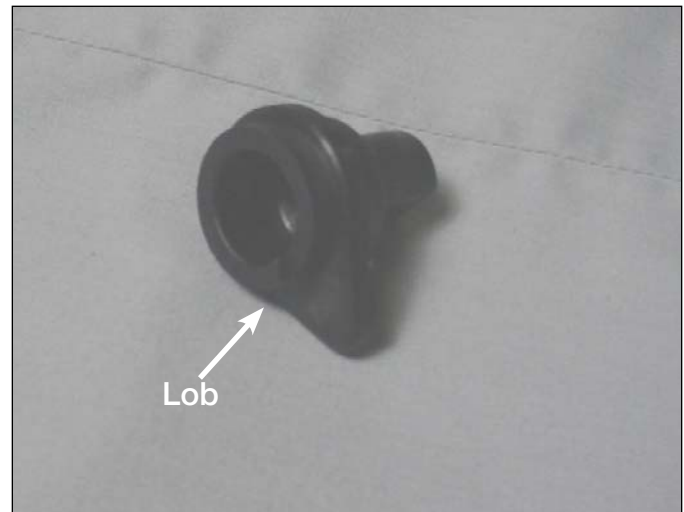

Figure 39.
7. Place the neutral position pointer lob, see Figure 39, into the main movable contact hub located in the lower front center of the drive assembly panel. See Figure 40.